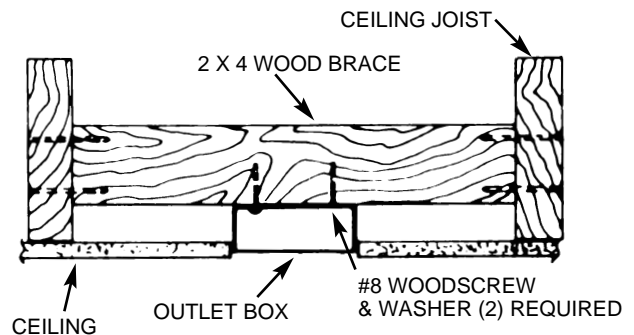

FIGURE 2
A. Secure a metallic outlet box 4" x 1½" or 4" x ½" deep to 2 x 4 cross brace between two ceiling joists as shown in Figure 2. The outlet box must be recessed in the ceiling by ¼" minimum. Secure the outlet box to the cross brace by drilling (2) pilot holes no larger than the minor diameter of the wood-screws (5/64") and use two #8 x 1½" woodscrews and washers. Use the innermost holes for securing the box. Orient the box so the outermost holes are aligned with the 2 x 4 brace. The outermost holes will be used in Step 4B.